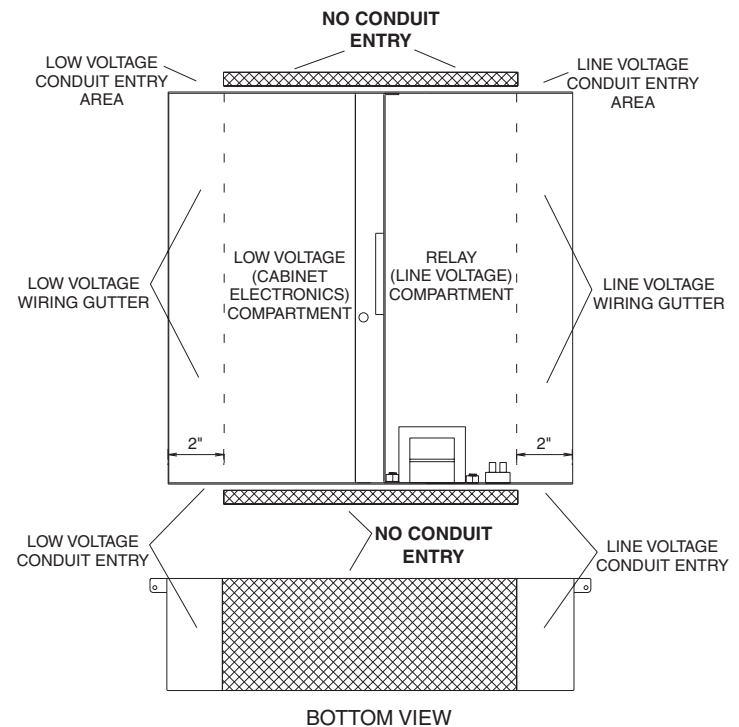

Figure 1 - Conduit and Cable Entry
5. Do not install conduit where "No Conduit Entry" is shown in *Figure 1*.
2. Choose the desired location for line voltage and low voltage conductor entry in the cabinet. DO NOT install conduit where NO CONDUIT ENTRY is shown in *Figure 1*.
3. **ALL LINE VOLTAGE** conductors **must** enter the cabinet on the right side (when facing) of the enclosure, in the area shown in *Figure 1*.
4. **ALL LOW VOLTAGE** conductors **must** enter the cabinet on the left side (when facing) of the enclosure, in the area shown in *Figure 1*.